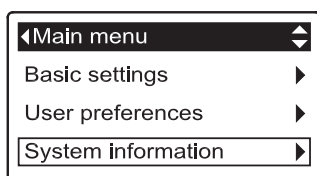

FIG. 114
1. From any of the rolling status screens, press the SELECT (O) button to display the **Main menu**.
2. Press the DOWN (▼) button to scroll through the menu options until **System information** is highlighted (See Figure 114).